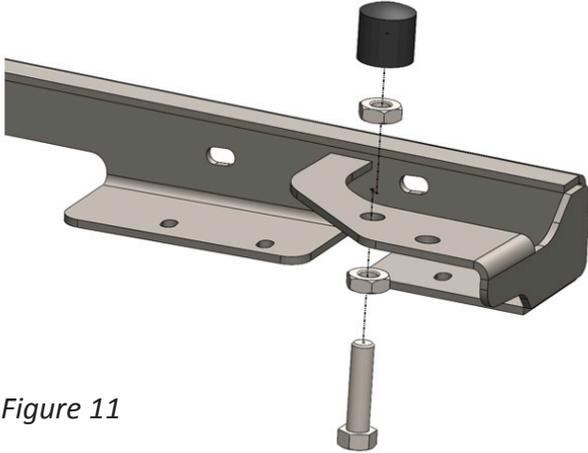

Figure 11
10. Install the rubber hood bump stop (61825) into the hood/fender mounting brackets (22773 and 22774) using 1/2"x2" hex head bolts with nuts. Loosely install for later adjustment. Figure 11.